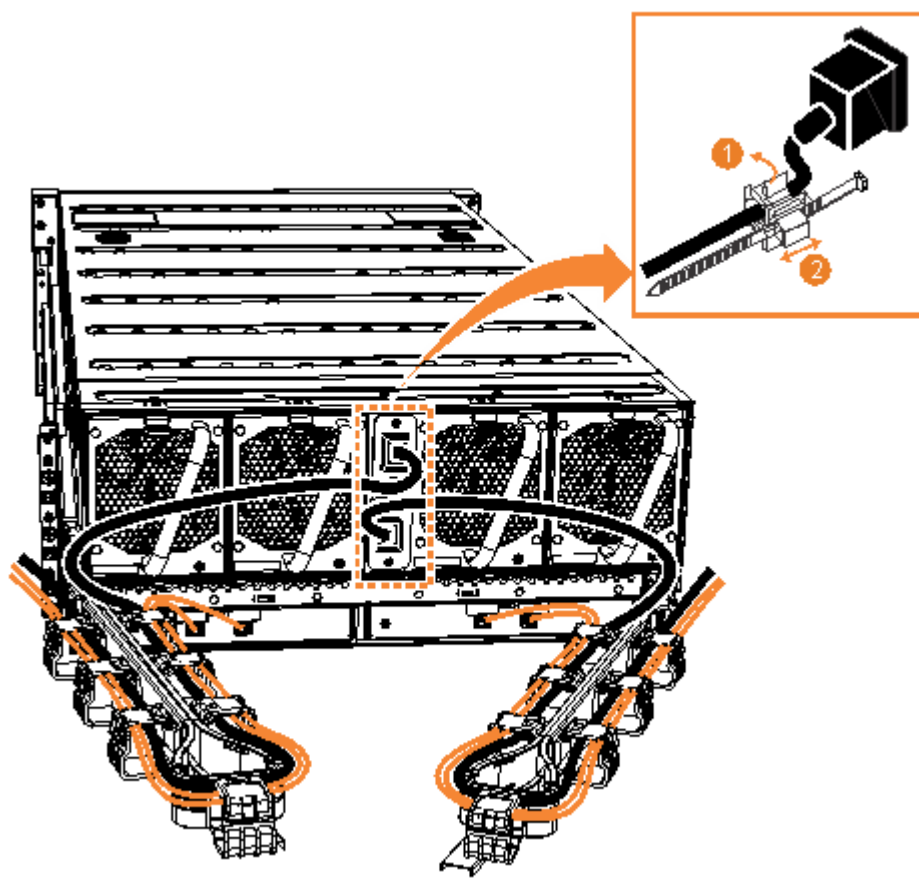

Figure 116. Secure power cables
2. Secure the power cables in the cable retainer at each power connector on the rear of the enclosure, as shown in Figure 116 on page 110. Also, ensure that each cable is installed along one of the cable management arms. The cable management arms also support the SAS cables.